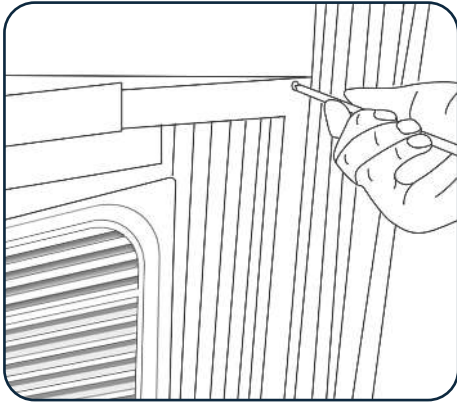
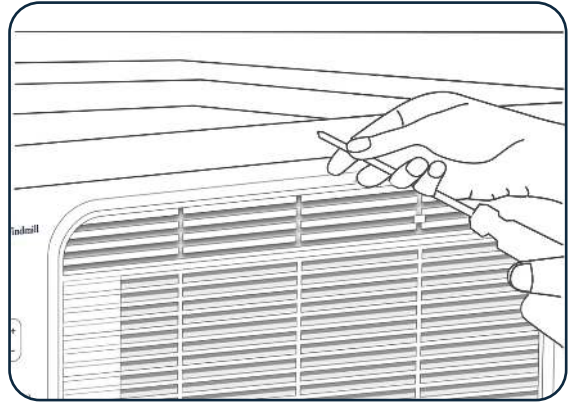

Fig.11
Fig.12
- Drive 1/2" screws into the top of the accordion panel frame and the top rail to securely attach the window air conditioner to the lower sash (**See Fig.11 & Fig.12 on next page**).